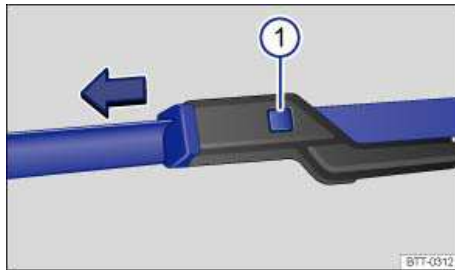

Fig. 149 Changing the windshield wiper blades.
- Press and hold the release button ⇒ fig. 149 (1).